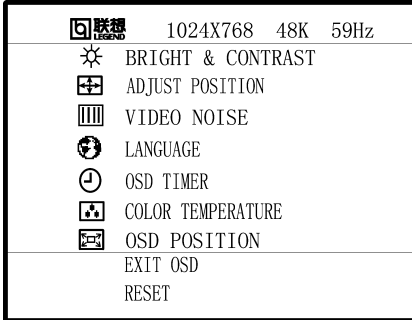
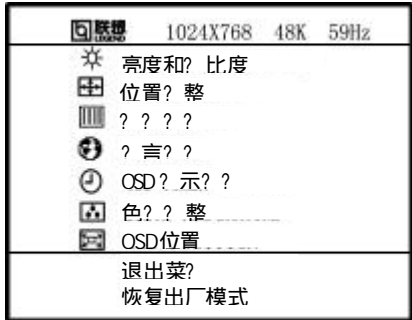

Figure 5 English OSD Message
Figure 6 Chinese OSD Message
The monitor controls are accessed by pressing button MENU to enable OSD (On-Screen-Display). The main menu will be displayed as follows (see figure 5). If OSD window is in Chinese when power on (see figure 6), press the Contrast/UP Key or Brightness/Down Key to choose the next window. Choose the English, then press MENU Key for confirming. OSD window will display in English.
1. Press the MENU-Key to show the OSD window. See figure 6.